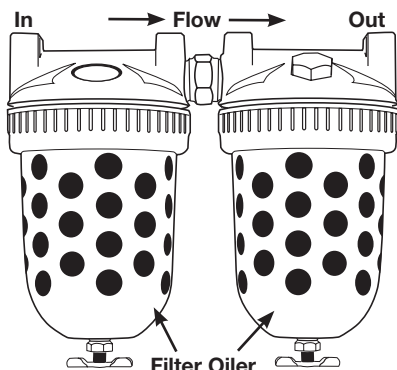

Figure 3— Air Filter and Lubricator Unit
- A filter and lubricator unit (Figure 3) must be installed between air source and air hose leading to hoist. These keep the air flowing to the hoist free of dirt and adds lubricant to the air so internal parts of motor are constantly lubricated. Use air hoist motor oil or good grade 10W machine oil (approximate viscosity 150 SSU at 100°F). Multi-viscosity, detergent type engine oil is not recommended. Feed one drop of oil for every 50 to 75 cubic feet of air going through the air motor.